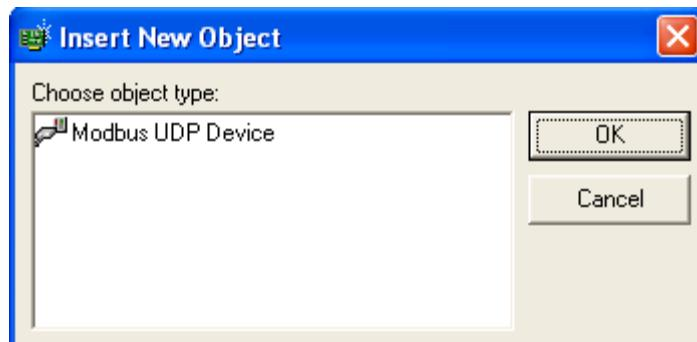

Figure 16 - Insert New Object
2. The **Insert New Object** window (Figure 16) appears.